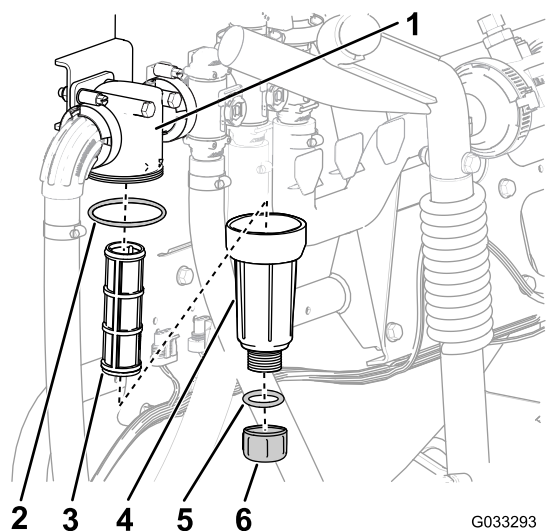

Figure 31
2. Align a drain pan under the pressure filter (Figure 31).
3. Rotate the drain cap counterclockwise and remove it from the bowl of the pressure filter (Figure 31).
4. Rotate the bowl counterclockwise and remove the filter head (Figure 31).
5. Remove the pressure filter element (Figure 31).
7. Check the gasket for the drain plug (located inside the bowl) and the gasket for bowl (located inside the filter head) for damage and wear (Figure 31).
8. Install the pressure filter element into the filter head (Figure 31).
9. Install the bowl onto the filter head, and tighten by hand (Figure 31).
10. Assemble the drain cap onto the fitting at the bottom of the bowl, and tighten the cap by hand (Figure 31).